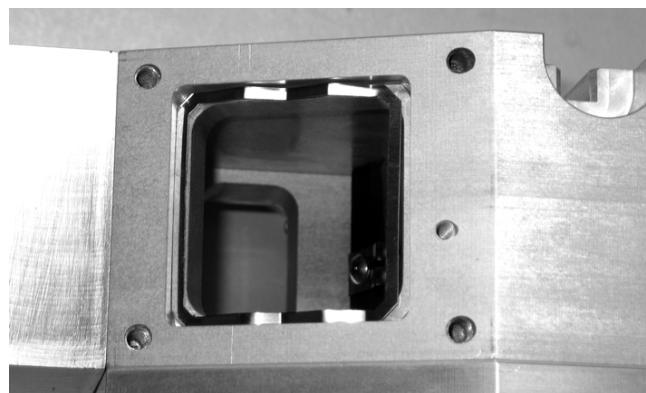

Figure 124: Inserting the wave spring washer
10. Re-insert the wave spring washer (see Figure 124).